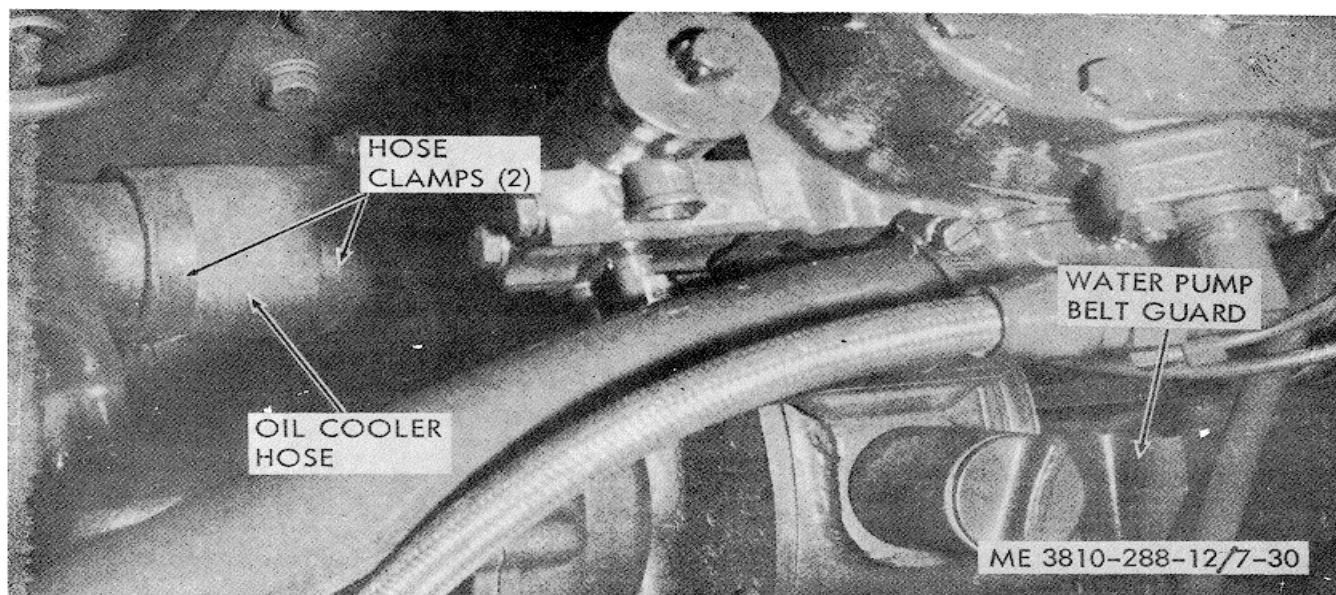

Figure 7-30. Water pump and lines, removal and replacement.
- (b) Remove the oil cooler hose (fig. 7-30) by loosening the two hose dampers.
(2) Installation. Ref to figures 7-30 and 7-31 to install the water pump. Refer to figure 7-31 and adjust water pump belt tension so that the midspan slack does not exceed $\frac{1}{2}$ inch at the point indicated. To adjust, loosen the jam nut and turn down on the water pump belt in the desired condition.